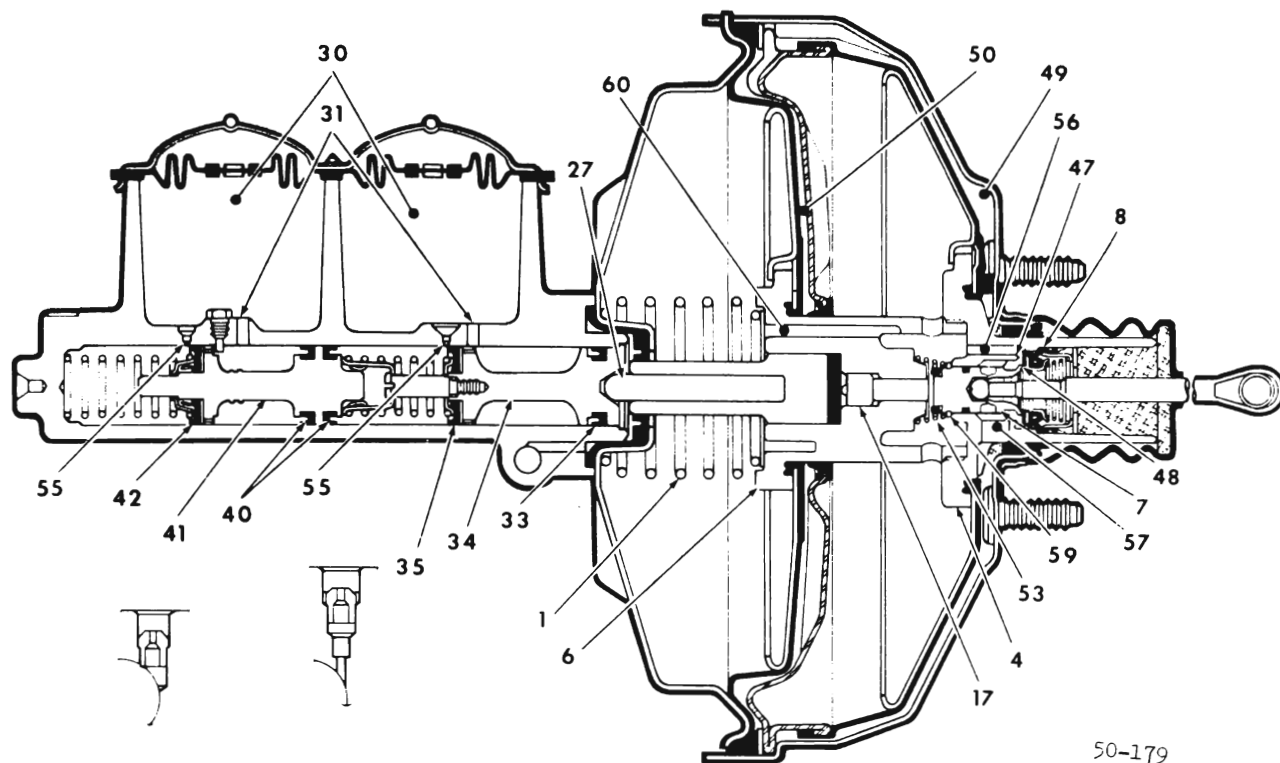

Figure 50-55 Releasing Position
piston. The air valve (7) seating on the floating control valve (8) at point (48) has shut off the outside air source. The unseating of the floating control valve from the power piston opens areas (49 and 50) to the vacuum source through passage way (56). See Figure 50-55.